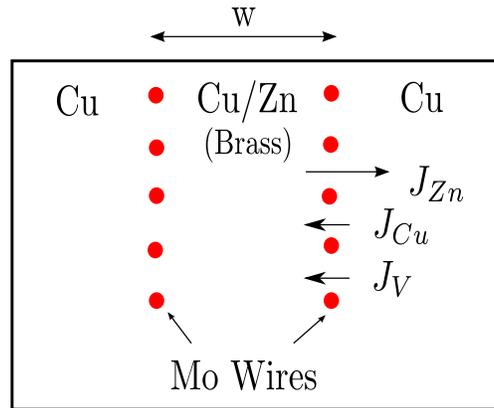

Figure 1: Experimental Geometry for the Kirkendall experiment.
3) A diffusion couple including inert wires was made by plating pure copper on to a block of α -brass with $X_{Zn} = 0.3$, as shown in Figure 1. After 56 days at 785°C the marker velocity was 2.6×10^{-8} mm/s, with a composition at the markers of $X_{Zn} = 0.22$, and a composition gradient, $\partial X_{Zn}/\partial z$ of 0.089 mm^{-1} . A detailed analysis of the data gives $\bar{D} = 4.5 \times 10^{-13} \text{ m}^2/\text{s}$ for $X_{Zn} = 0.22$. Use these data to calculate D_{Zn} and D_{Cu} for $X_{Zn} = 0.22$. How would you expect D_{Zn} , D_{Cu} and \bar{D} to vary as a function of composition?